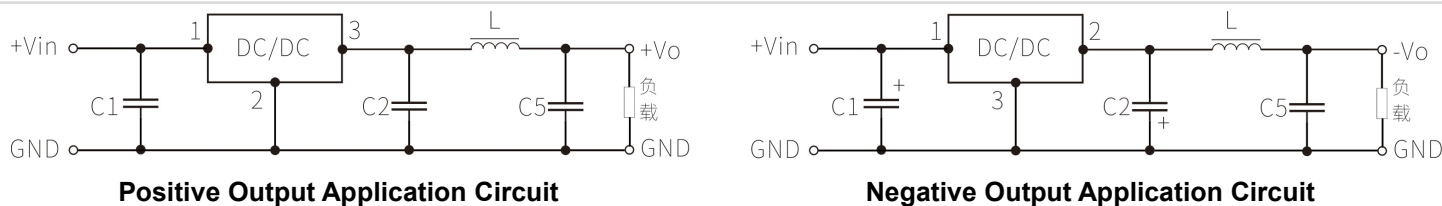

Fig3: 'LC' Filter Application Circuit
- To further reduce output ripple, an external "LC" filter network can be added at the output end. The recommended value of L is 10μH-47μH, and the recommended value of C5 is 22uF (as shown in Figure 3).